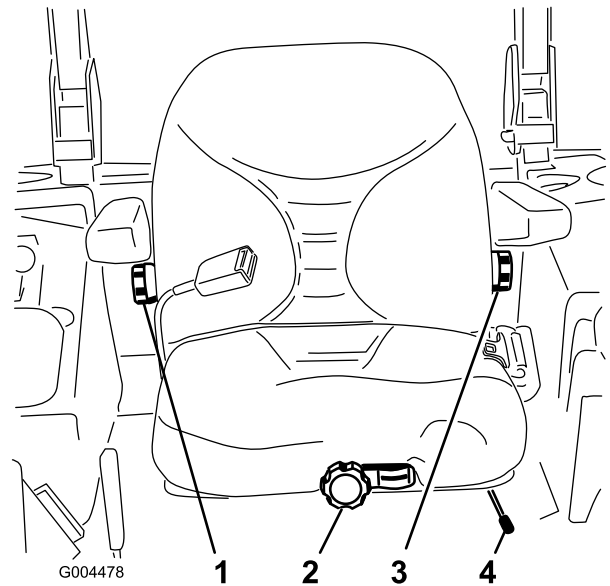

Figure 29
1. To adjust, move the lever sideways to unlock the seat (Figure 29).
To adjust it, turn the knob, under the right-side arm rest, in either direction to provide the best comfort (Figure 29).
To adjust it, turn the knob, under the left-side arm rest, in either direction to provide the best comfort (Figure 29).